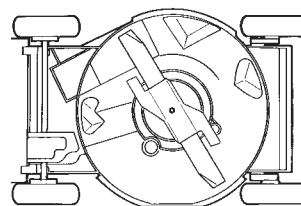

Figure 19
4. Tip the lawn mower onto its left side (Fig. 19).